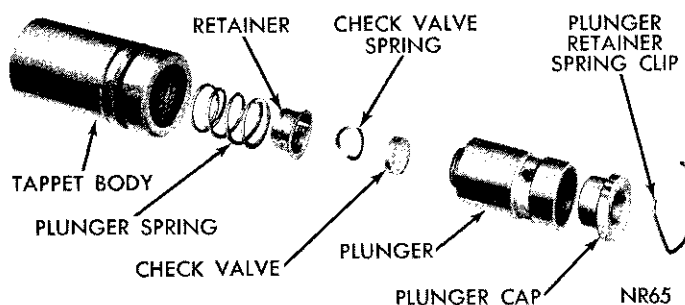

Fig. 17—Hydraulic Tappet Assembly (Disassembled View)
Disassembly (Fig. 17)
- (1) Clean all tappet parts in a solvent that will remove all varnish and carbon.
- (2) Replace tappets that are unfit for further service with new assemblies.
- (3) If plunger shows signs of scoring or wear and valve is pitted, or if valve seat on end of plunger indicates any condition that would prevent valve from seating, install a new tappet assembly.
- (4) Assemble tappets (Fig. 17).